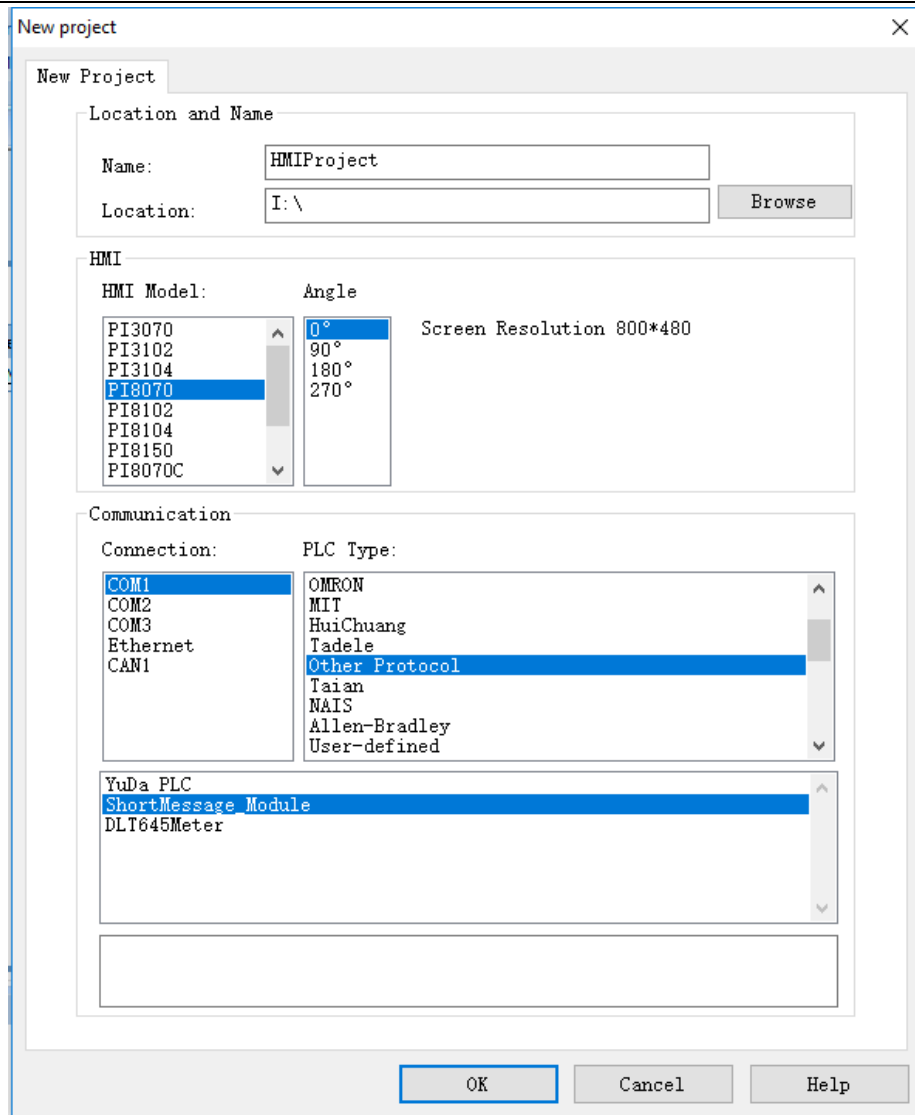

Figure 1
- 1) Create a new project, as Figure 1 shows;